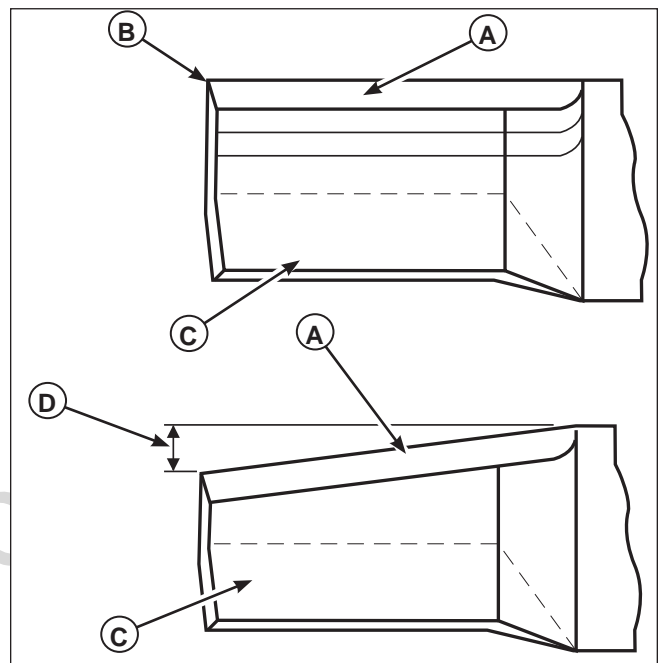

Figure 27. Inspecting the Mower Blade Tips
- Inspect the mower blade (**Figures 27 & 28**). **Discard the mower blade if it has any of the below conditions.**
- Has more than .5" (12,7 mm) of the mower blade metal removed from previous sharpening or wear (**D**, **Figure 27**)